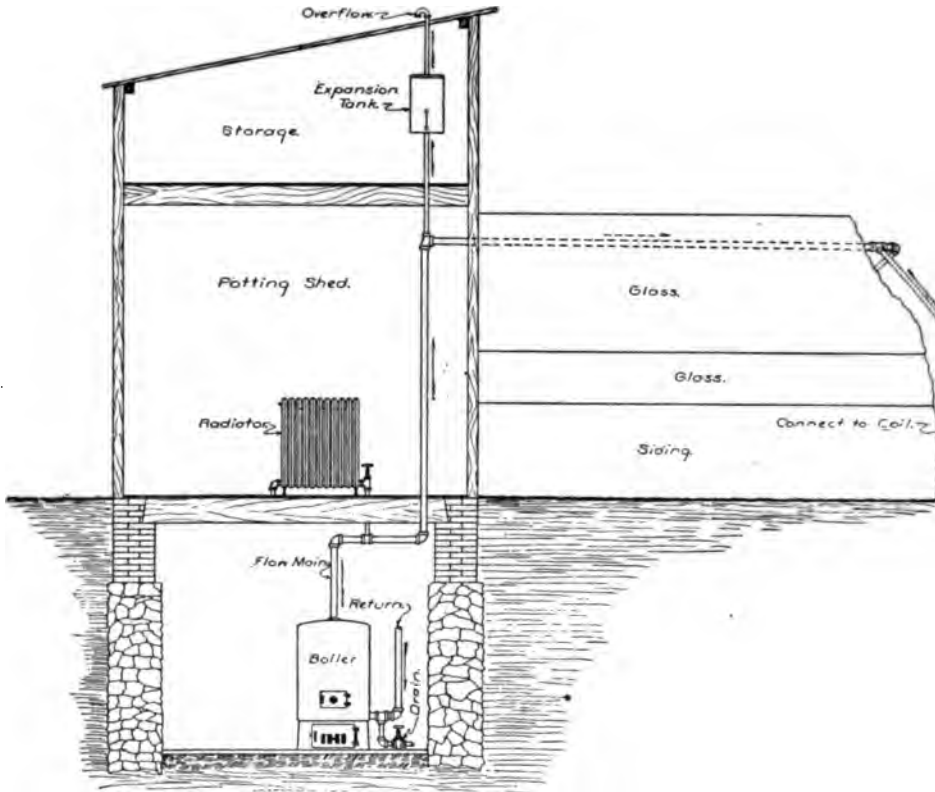

Fig. 127.—Elevation of Greenhouse Piping System.
A. In building a greenhouse it is usual to erect a potting shed at one end. This portion of the building is usually excavated for a cellar or pit to accommodate the boiler and in many instances has a second floor for use as storage or for the use of the man who attends the heating apparatus. The tank is located in this building well above the high point of the piping and it is connected to the system in the same manner as for the regular overhead system of hot water heating. Fig. 127 shows an elevation of a small house and potting shed.